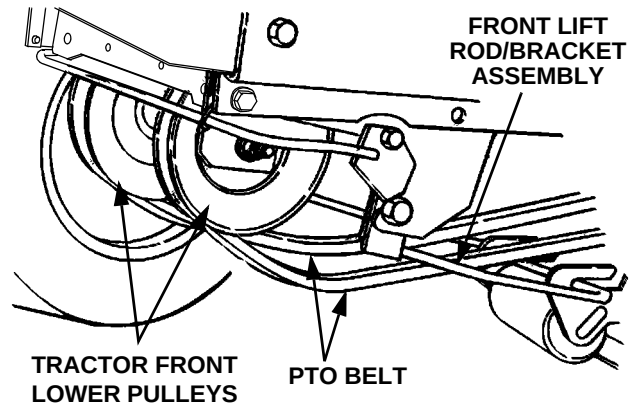

Figure 6-13
5. Pass the PTO belt downward, inside the tractor frame, until the belt is below the two tractor front lower pulleys and pull the belt clear of the tractor (See Figure 6-13).